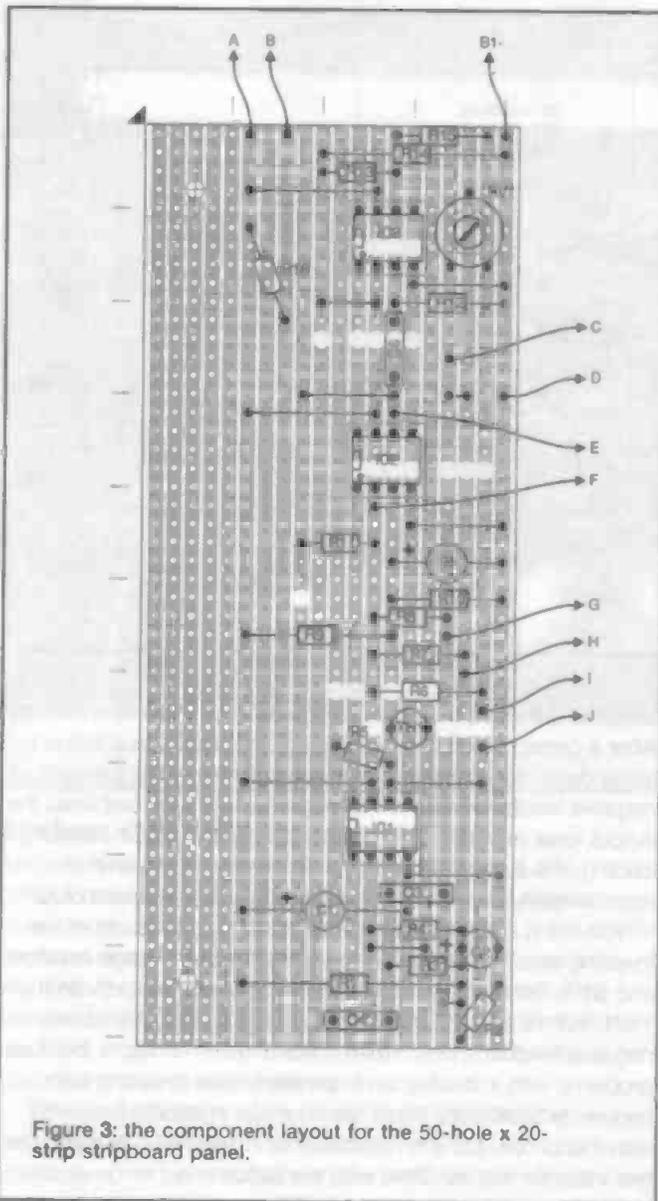
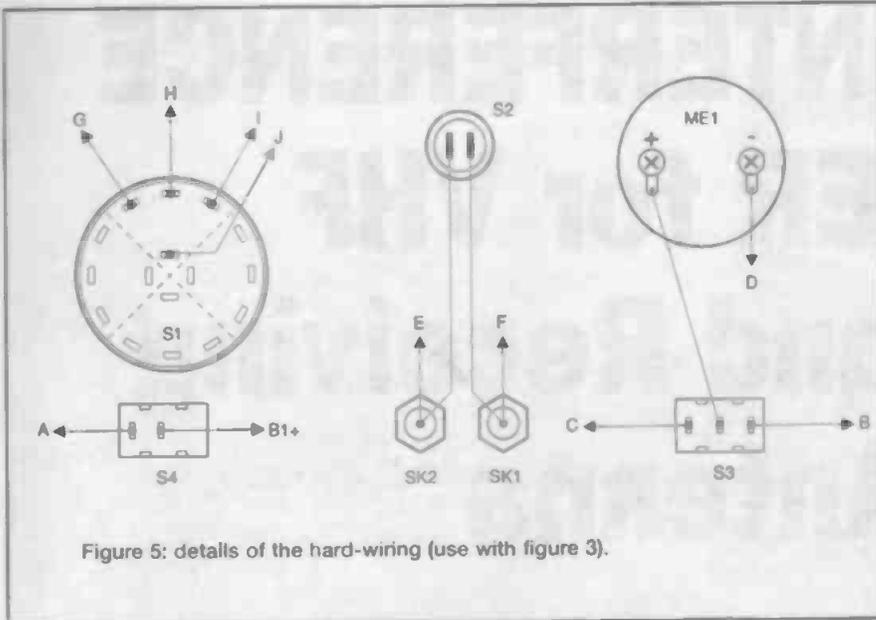
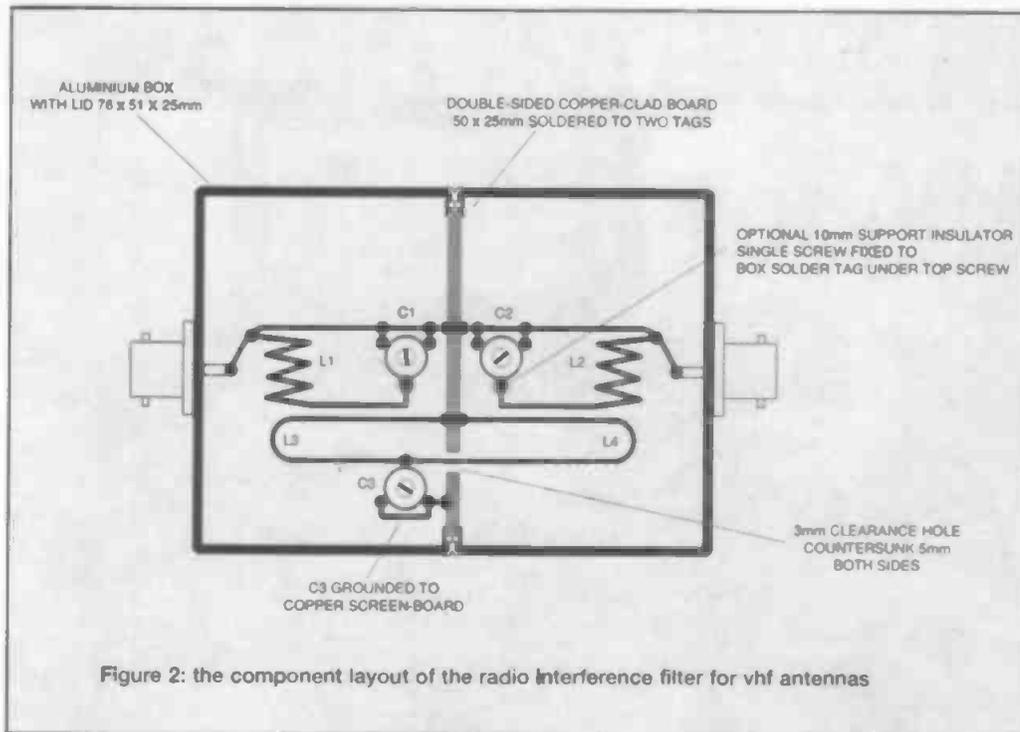

Figure 3: the component layout for the 50-hole x 20-strip stripboard panel.
Figure 5: details of the hard-wiring (use with figure 3).
Figure 2: the component layout of the radio interference filter for vhf antennas
This circuit is simple enough for stripboard construction, and a suitable layout is provided in figures 3 and 4. These respectively show the component and copper side views of the
Details of the hard wiring are provided in figure 5, which should be used in conjunction with figure 3 (for example, point "A" in figure 3 connects to point "A" in figure 5). This wiring is straightforward and should not present any problems. S1 is a standard three-way four-pole rotary switch, but in this circuit only one pole is used and 12 of its tags are left unconnected. The battery pack consists of eight HP7 (AA) size cells fitted in a plastic holder. There is just about enough space for the batteries inside the case, but the holder will probably have to be fixed to the rear panel or top of the case using double-sided adhesive pads. Do not simply leave the battery pack rattling around inside the case, as it would probably damage thermistor TH1. Connections to the battery holder are via an ordinary PP3 size battery clip.
Before soldering the screening board into the box, the component fixing-holes must be drilled as described in figure 3 using a 1-mm drill which provides a neat fit for the 20swg wires, and then the four coils and three trimmer capacitors fitted onto the board and soldered into place. Figure 2 gives guidance for mounting of the components, but positioning is not critical, as the wire tails of the coils can easily be bent in situ to suit your particular layout.
is not important, but the trimmer should sit snugly against the copper with its adjusting slot upwards, and the centre-tag facing inward. The trimmer's two common-tags are soldered to the short piece of 20swg grounding wire which is soldered through the board at 6mm from the edge, as shown in figure 3. The centre-tag should be in contact with and soldered to the union of the two link-loops, close to where they pass through the clearance-hole in the board.